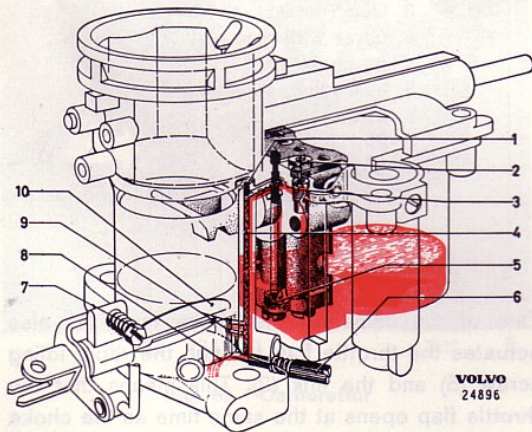

Fig. 66. Idling system
While the engine is idling, the throttle flap is almost completely closed (regulated by means of a stop screw (7, Fig. 66) whereby the degree of vacuum around and under the flap is very large. Suction through the idling channel (4) will then be considerable and fuel will be sucked up from the channel above the main jet (5) through a hole and the idling jet (3) to the idling channel which opens out into the carburettor venturi with one large and two small holes. Air is supplied both through a hole (1) under the choke flap and an air jet (2) above the idling jet.